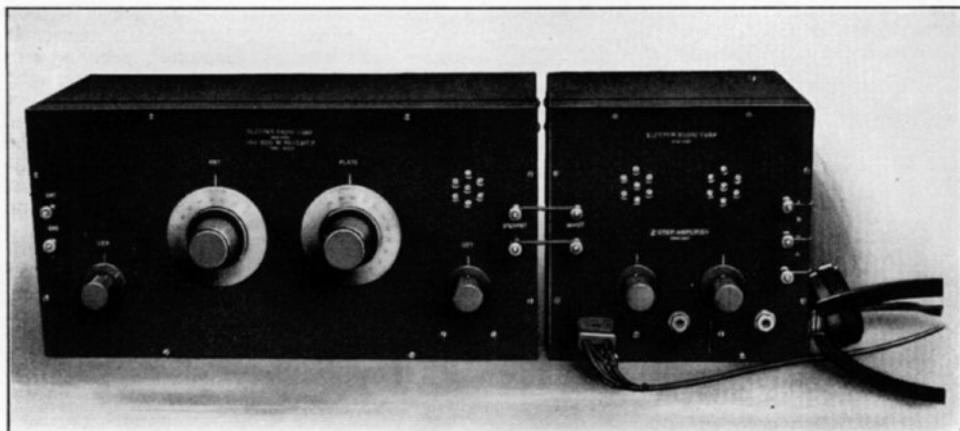

Fig. 1. The two controls are worked simultaneously until the signals are brought up to maximum strength
The completed set is shown in Fig. 1 and the interior layout in the subsequent illustrations. A variometer is connected in the antenna circuit with the detector across it. There is also a vernier condenser around the variometer, and another variometer, as closely coupled as possible to the first, is inserted in the detector plate. The panel is shielded with a thin aluminum sheet to prevent capacity effects. In view of the present agitation against regenerative receivers it is interesting to note that this set operates best when it is not oscillating.
**Construction Work Required.** This set, indicated for reference purposes type 4000, calls for no construction work other than drilling, since the vernier condenser, variometers, rheostat, and socket are mounted just as they are furnished. The front panel, of L. P. F., measures  $7\frac{1}{2}$  by 15 ins., 3-16 in. thick. A thinner panel can be used but this is not advised because the weight of the variometers is liable to make the panel sag. The cabinet shown in Fig. 1 is made with a strip across the front so that it is possible to fasten the panel on all four sides. This prevents any tendency to warp and gives additional strength to the panel. You can pur-